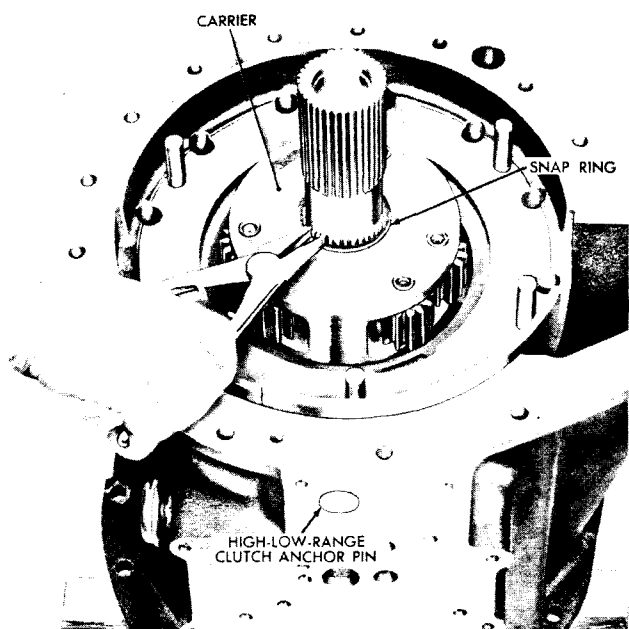

Fig. VII-18. Installing snap ring which retains low-range carrier assembly
(4) Install the low-range clutch anchor pin (fig. VII-18).
(5) Install the carrier assembly and retain it with the snap ring (fig. VII-18).